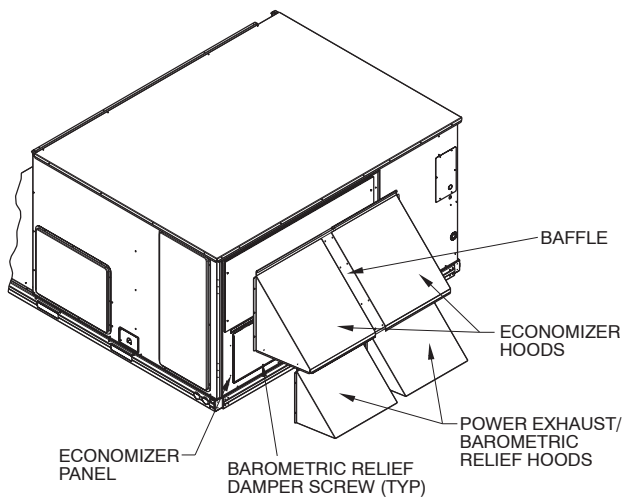

Fig. 21 – Hood Installation (48PG16)
6. On size 16 units, install baffle between the outdoor air hoods with the screws saved from Step 1. (See Fig. 21.)